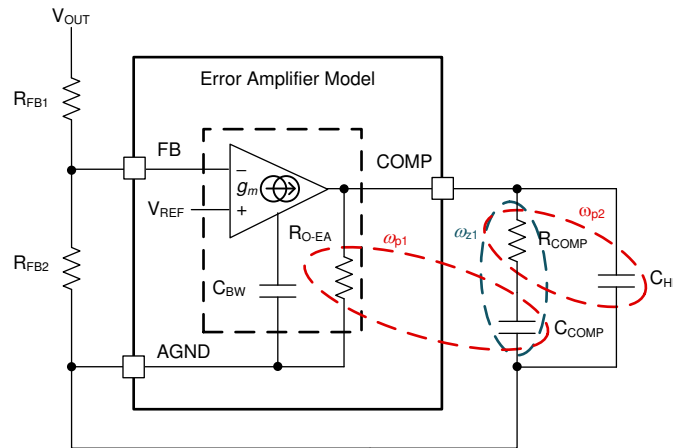

Figure 8-3. Error Amplifier and Compensation Network
Figure 8-3 shows a type-II compensator using a transconductance error amplifier (EA). The dominant pole of the EA open-loop gain is set by the EA output resistance, R_{O-EA} , and effective bandwidth-limiting capacitance, C_{BW} , as shown by Equation 26.